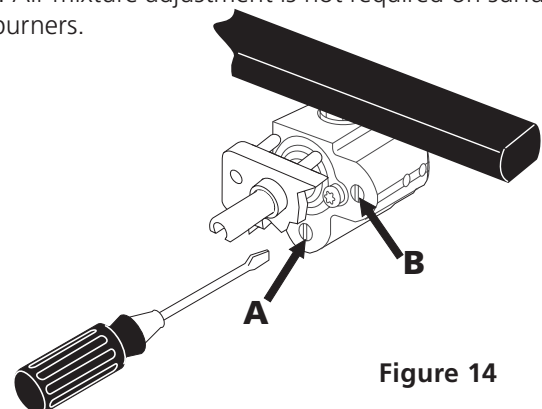

Figure 14
5. Adjust the "LOW" setting of the dual valve (Fig. 14)